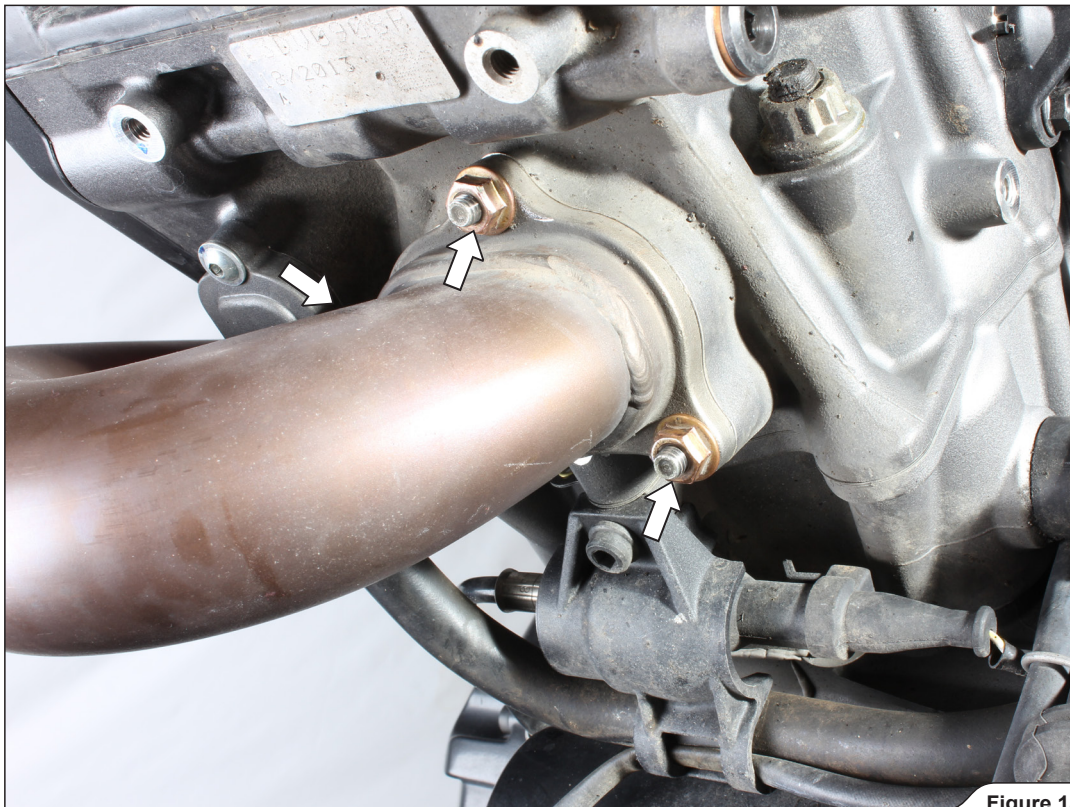

Figure 13
13. Unscrew the three nuts and remove the front header off the motorcycle (Figure 13).